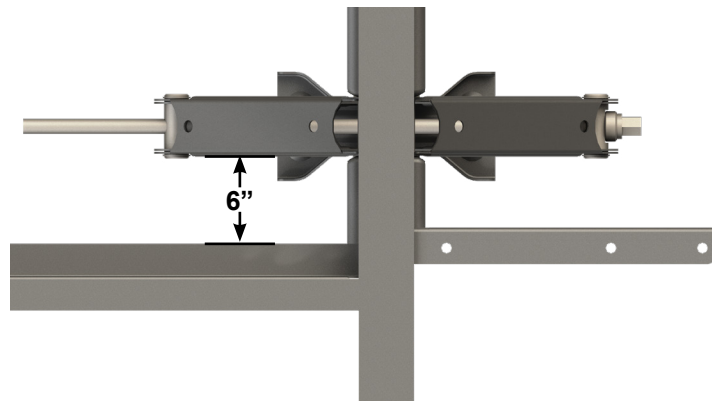

Fig.3
1. Locate a cross-member rearward of the rear jacks at a minimum of 4" to a maximum of 18" for jacks mounted at an angle. For jacks mounted square with the chassis frame, use a minimum of 6" (**Fig.3**).